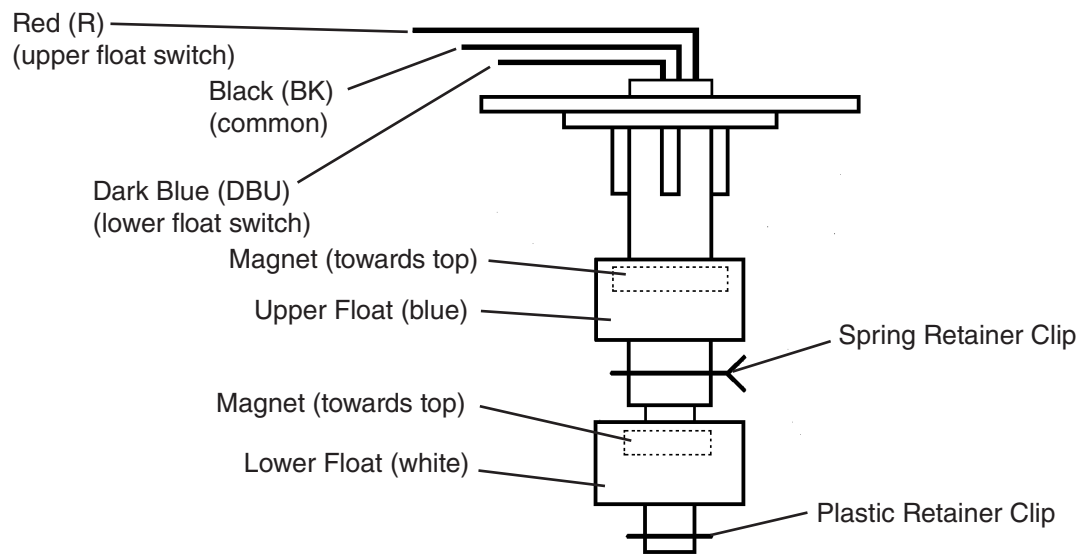

Fig. 7
- 4) Remove the FS molex plug from the control box and check continuity across FS wires. Black (BK) to red (R) for the upper float and black (BK) to dark blue (DBU) for the lower float. See Fig. 7. With the water reservoir empty, the float switches are open. If open, continue to step 5. If closed, follow the steps in "II.E.2. Float Switch Cleaning." After cleaning the float switches, check them again. Replace if necessary.
- 8) Remove the FS molex plug from the control box and check continuity across FS wires. Black (BK) to red (R) for the upper float and black (BK) to dark blue (DBU) for the lower float. They should be closed. If open, follow the steps in "II.E.2. Float Switch Cleaning." After cleaning the float switches, check them again. Replace if necessary.